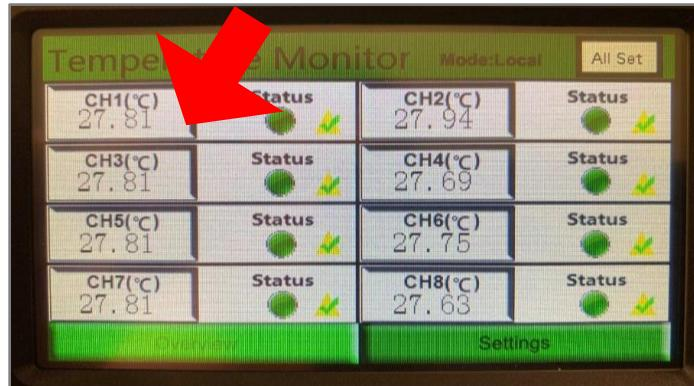

Figure 19-32 Overview Interface
- 2) In the “Overview” Interface of the touchscreen, select the desired temperature control chamber to be controlled, CH1 in Figure 19-32 below.